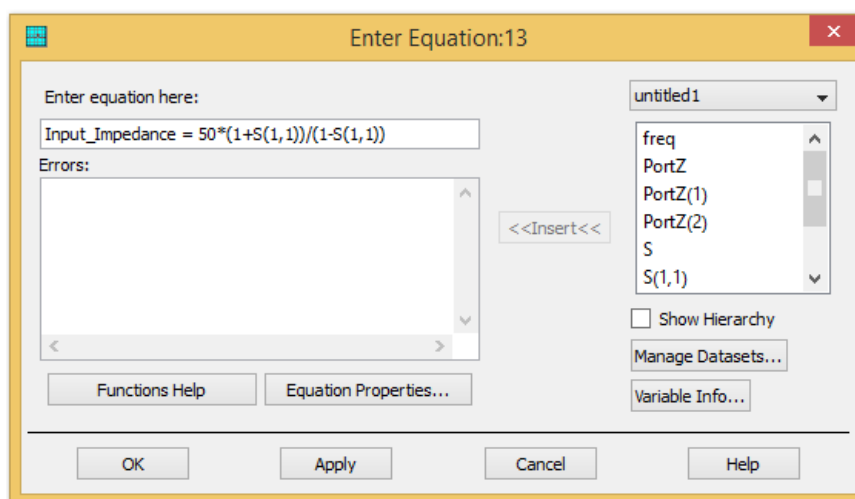

Figure 4: Equation Editor Window
- (p) To create and insert equations, choose **Insert → Equation**. Move the cursor over the blank page and click to insert the new equation. The **Equation Editor Window** will open through which the desired equation can be entered as shown in figure 4